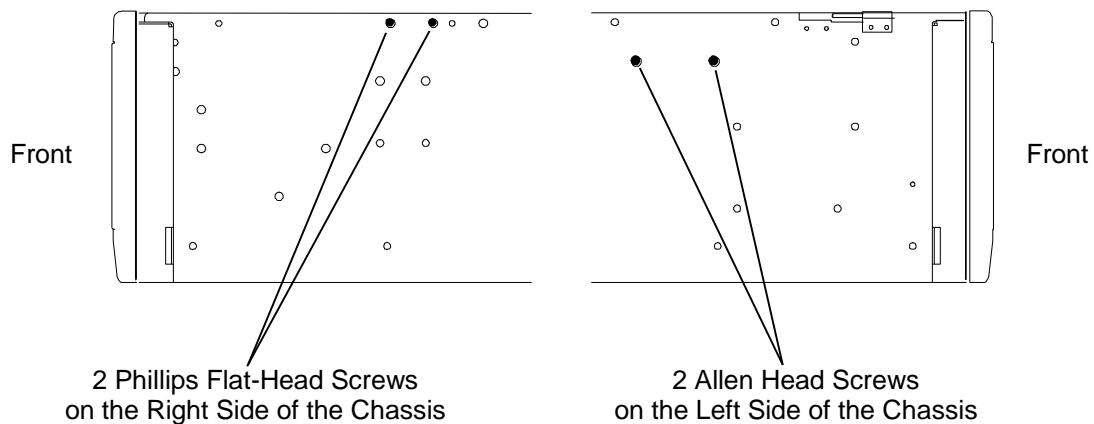

Figure 7-37 Screws that secure the Sensor Master PCBA Bracket in place
6. Using a No. 2 Phillips screwdriver, remove the two screws from the right side of the RLS that hold the Sensor Master PCBA bracket in place. See Figure 7-37.
7. Using a 5/64-inch Allen (hex) wrench, remove the two Allen-head screws from the left side of the RLS that hold the Sensor Master PCBA bracket in place. See Figure 7-37.
1. Carefully position the bracket in between the left and right sides of the chassis, aligning the threaded holes with the screw holes on the sides of the RLS. See Figure 7-37.
2. Using a 5/64-inch Allen (hex) wrench, replace the two Allen-head screws that were removed earlier from the left side of the RLS that hold the Sensor Master PCBA bracket in place. See Figure 7-37.
3. Using a No. 2 Phillips screwdriver, replace the two flat-head screws that were removed earlier from the right side of the RLS that hold the Sensor Master PCBA bracket in place. See Figure 7-37.